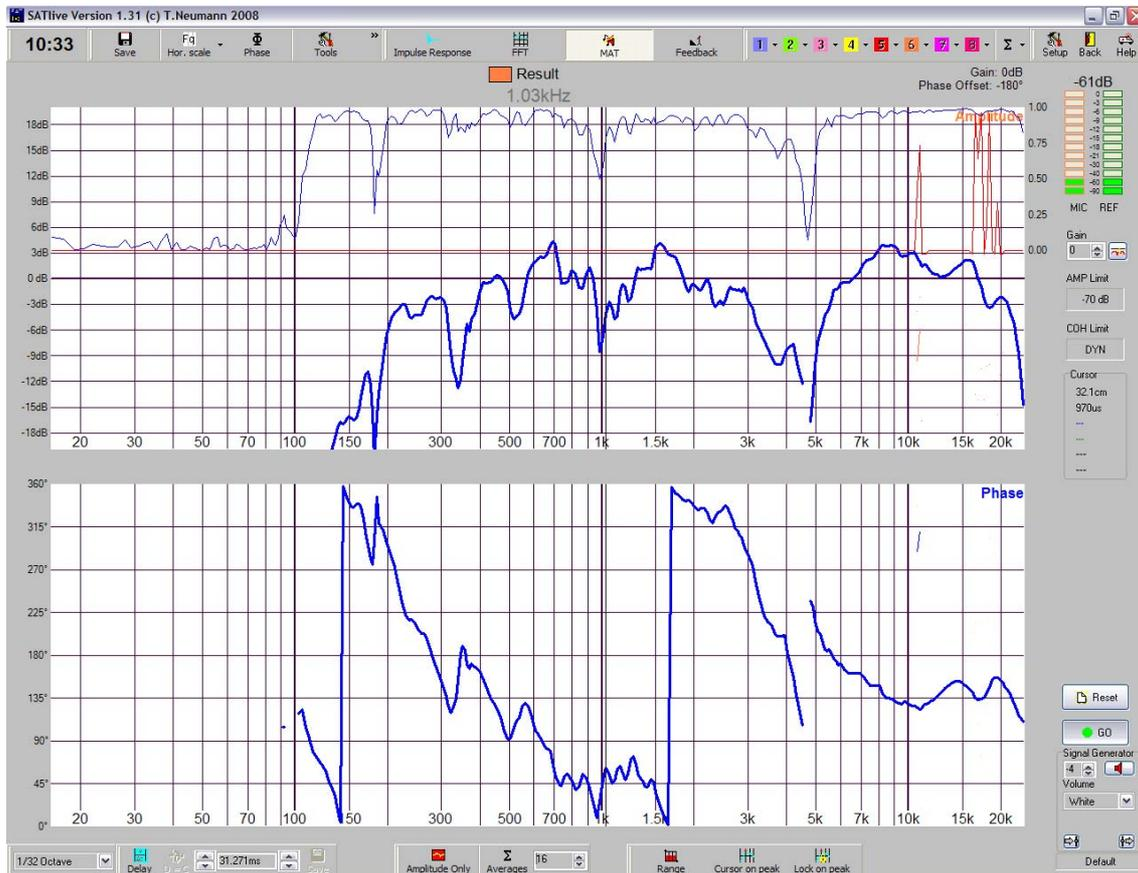

Fig. 9. Magnitude and phase frequency response for the mid-highs.
- 5) Measure the mid-highs and save the curve. In our example, the curve in Figure 9 is obtained.